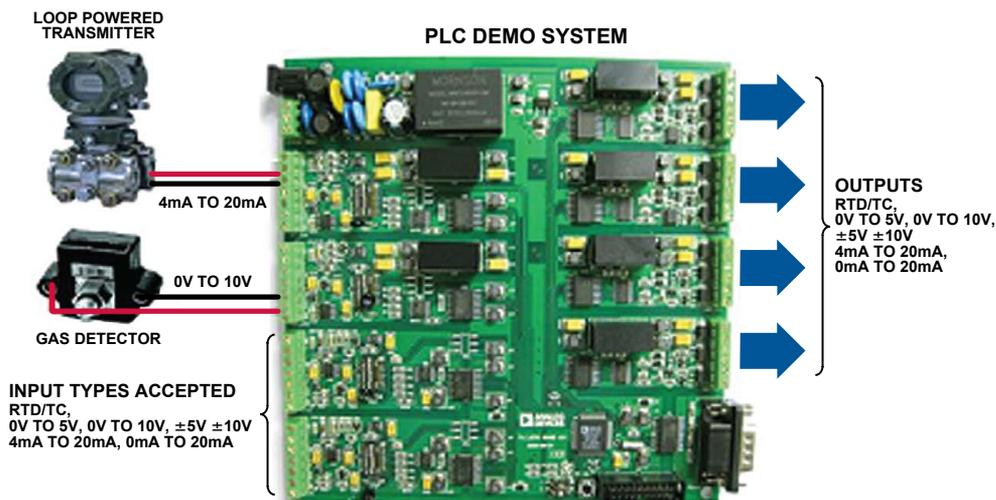

Figure 19. Industrial control evaluation system.
**Typical System Configuration:** Figure 19 shows a photo of the evaluation system and how a typical system might be configured. The input channels can readily accept both loop-powered and nonloop-powered sensor inputs, as well as the standard industrial current and voltage inputs. The complete design uses Analog Devices converters, isolation technology, processors, and power-management products, allowing customers to easily evaluate the whole signal chain.